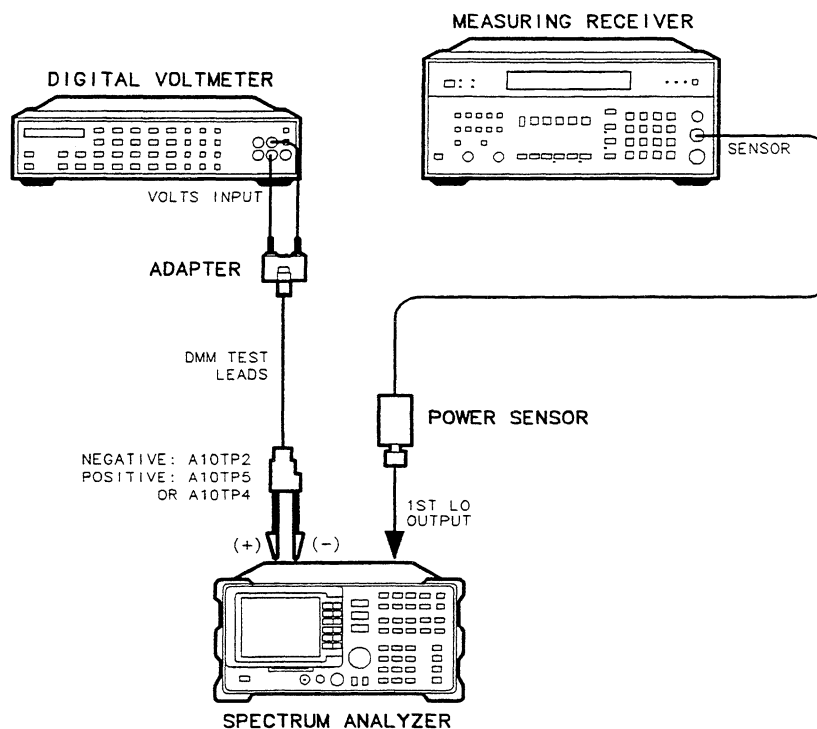

Figure 10-1. First LO Distribution Amplifier Adjustment Setup
3. Connect the positive DMM test lead to A10TP5, GB (gate bias). Connect the negative DMM test lead to A10TP2, AGND (analog ground). See Figure 10-1.